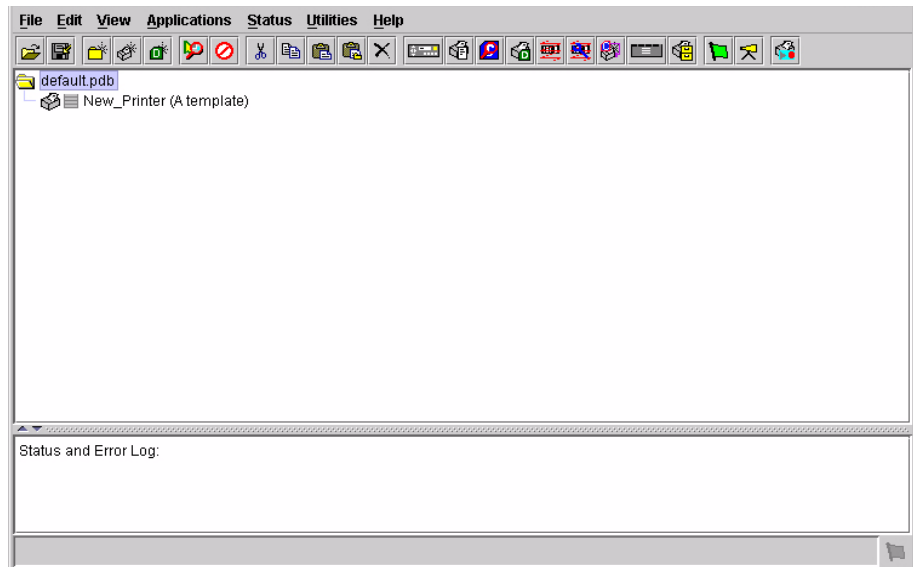

Figure 1. Printer Database Main Window
2. From your operating system, launch the remote management software. Click the splash screen to see the main window of the printer database more clearly. See Figure 1.